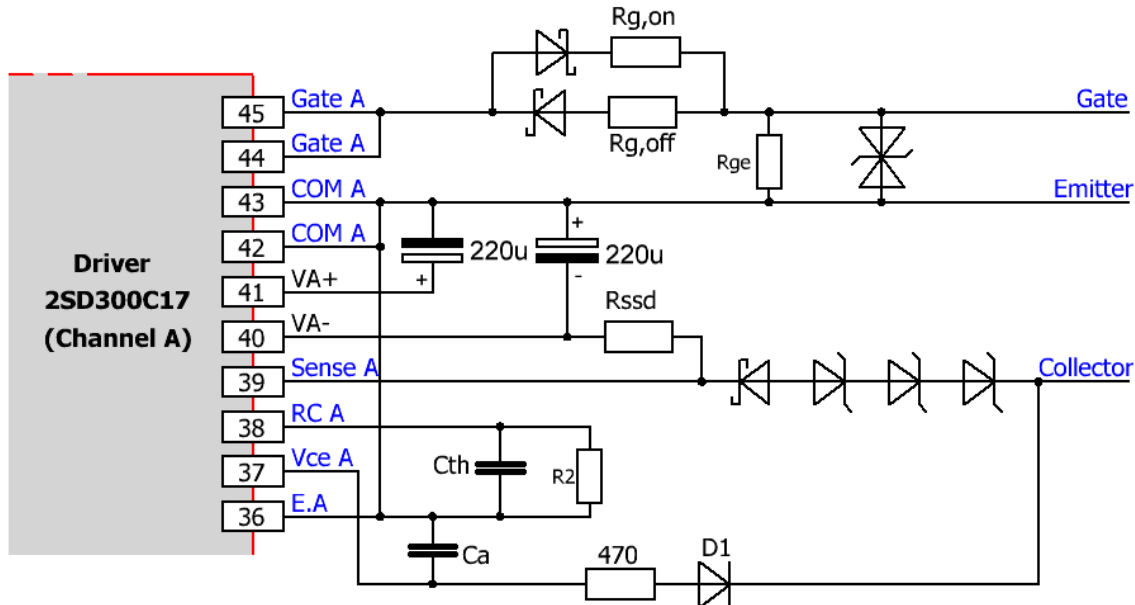

Fig. 7 Recommended user interface of 2SD300C17 (only channel A, secondary side)
Fig. 7 shows the recommended interface circuit for the secondary side of the driver (channel A). The same circuit can be used for channel B (not shown).
The blocking capacitors must be placed between Vx+ and COM x as well as between COM x and Vx- (Fig. 7). They must be connected as close as possible to the driver's terminal pins with minimum inductance. Capacitors with high ripple current capability should be used.
- $R_{ssd}=10k\Omega$, $C_a=1nF$ (Fig. 7)
2SD300C17 drivers are equipped with a dynamic collector sense function. The collector sense must be connected to the IGBT collector with the circuit shown in Fig. 7 in order to detect an IGBT overcurrent or short-circuit. For more details about the functionality of this feature, refer to "Vce monitoring / short-circuit protection" on page 15.
Active clamping can be realized with a feedback from the collector to the Sense x input according to Fig. 7. It is recommended to use the following transient voltage suppressors (TVS):
The 2SD300C17 driver is equipped with a Vce monitoring circuit. The recommended circuit is illustrated in Fig. 7. A resistor and a capacitor (Rth and Cth in Fig. 7) are used as the reference elements for defining the dynamic turn-off threshold.